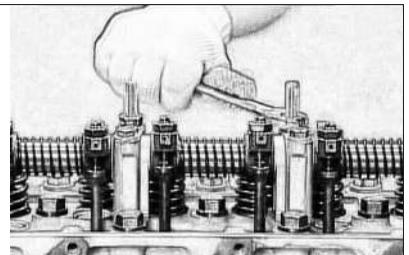

Fig 5-18 Rocker Assembly Installation
2.7 When installing rocker assembly, align oil hole on rocker arm seat with oil hole on cylinder head, and tighten bolts (see Fig 5-18).